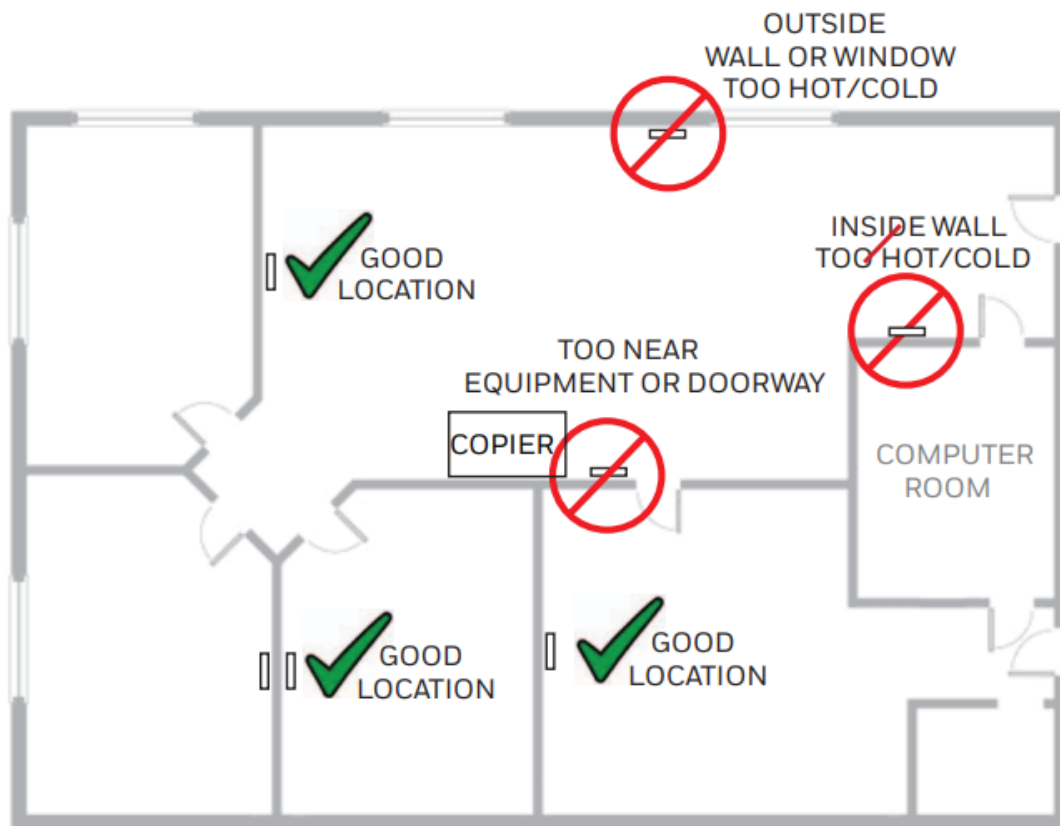

Fig. 1.
1. **IMPORTANT!** Per Fig. 1 locate sensor in an area away from ventilation sources and heat-generating equipment and appliances. The sensor should be mounted at light switch height in a vertical orientation. Use insulating material behind the sensor to ensure reading accuracy.